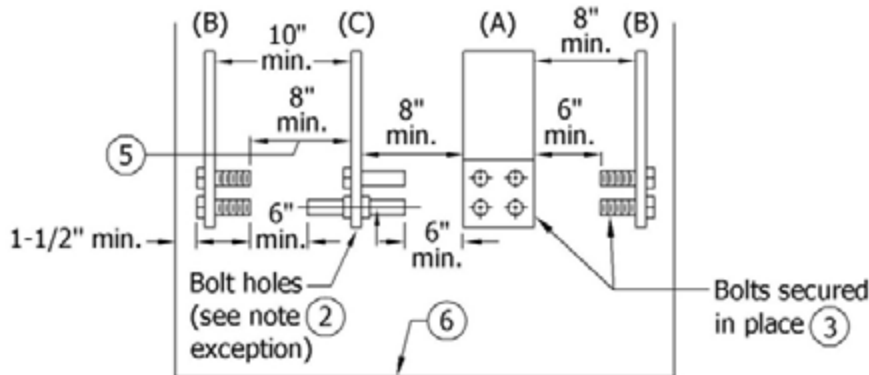

FIGURE 3
Exception: Edgewise terminating facilities may consist of 9/16" holes having the same spacing as specified for the 1/2" bolts as specified above and in Figure 1. The unobstructed working space shall be provided on both sides of the termination bus (see Figure 3).
- ③ Each terminating bolt shall be provided with a spring washer and a nut. The spring washer may be either a cone-type (Belleville) washer or a split-ring washer and a flat washer. All parts shall be plated to prevent corrosion. Terminating bolts shall not be used to secure the termination bus in place.
- ④ Terminating bolts must be secured in place. "Secured in place" shall mean that the stud will not turn, back out, or loosen in any manner when tightening or loosening terminal nuts (including cross-threaded situations).
- ⑤ Each terminating facility shall have an unobstructed working space, accessible from the front of the UGPS as viewed from the access compartment opening, in front of the entire mounting surface as shown in Figures 3 and 4. No more than one termination facility may be mounted along a side wall. When viewed from the front of the pull can or UGPS, no other termination or cables in place shall impair the 8" minimum working clearance. Uninsulated busses of different potentials shall not be permitted below or behind any terminating position as viewed from the front of the UGPS. If cross-bussing is installed below or behind a terminating position, the cross-bussing shall be fully insulated or barriered.